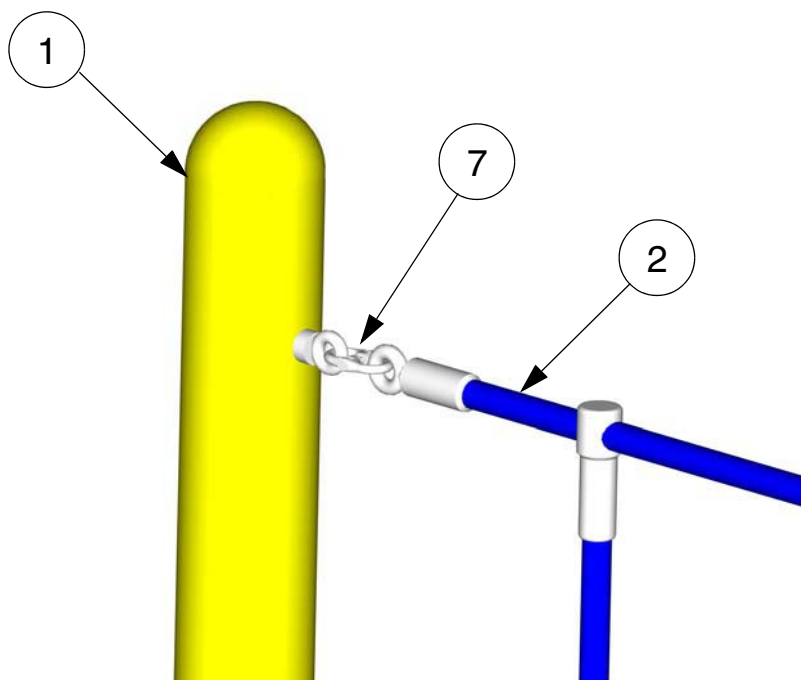

FIG.7
- vii) After concrete has completely cured attach the Climb Net (item 2) to the support posts using 8 off Coupling Links (item 3). FIG.7.